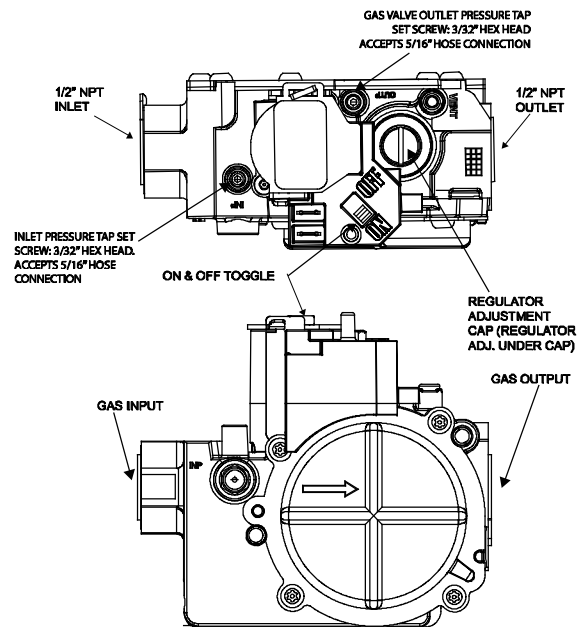

Fig. 32 - Gas Control Valve
- b. Loosen set screw on outlet tower pressure tap no more than one full turn with a 3/32 in. hex wrench. (See Fig. 32)